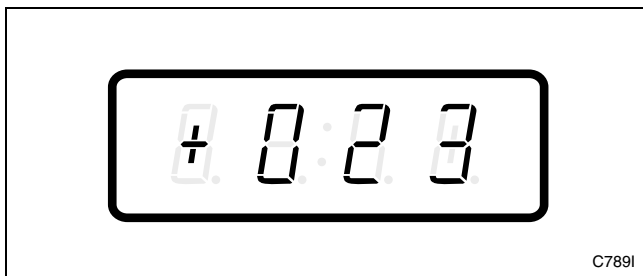

Figure 91
3. Press the LOW TEMP (+) or the NO HEAT (-) keypad to scroll through the programmable options until “+023” appears in the VFD. Refer to *Figure 91*.